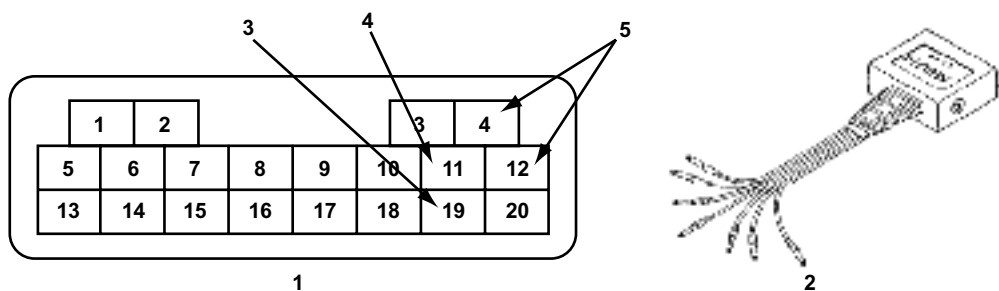

Figure 11-1 20-pin DLC and MULTI-1 adapter—engine codes
- Connect the MULTI-1 adapter with red terminal converters as shown in Figure 11-1 (red lead to terminal 19, blue lead to terminal 11, and black lead to terminal 4 or 12).